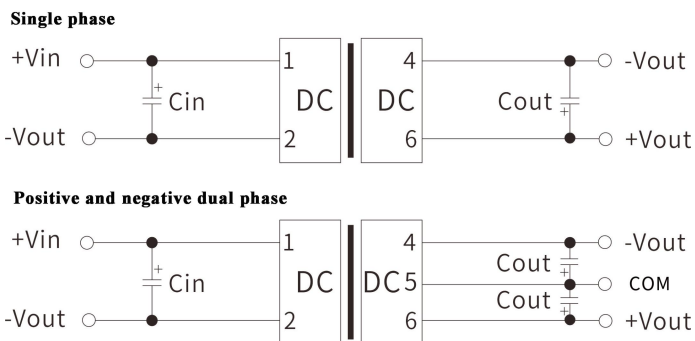

Figure 1
If it is required to further reduce the input and output ripple, a capacitor filter network can be connected to the input and output ends, and the application circuit is shown in Figure 1.
2. One recommended circuit: For applications where ripple and noise requirements are normal, a filter capacitor can be connected in parallel at the input and output ends. The external circuit is shown in the following figure1 with the recommended value details of the filter capacitor. Output load requirements: Try to avoid no-load use. When the actual power consumption of the load is less than 10% of the rated output power of the module or there is no-load phenomenon, it is recommended that a dummy load be connected to the output end. The dummy load (resistance) can be calculated by $5\sim 10\%$ of the rated power of the module, resistance value = $U_{out} / (1WR3 * 10\%)$.